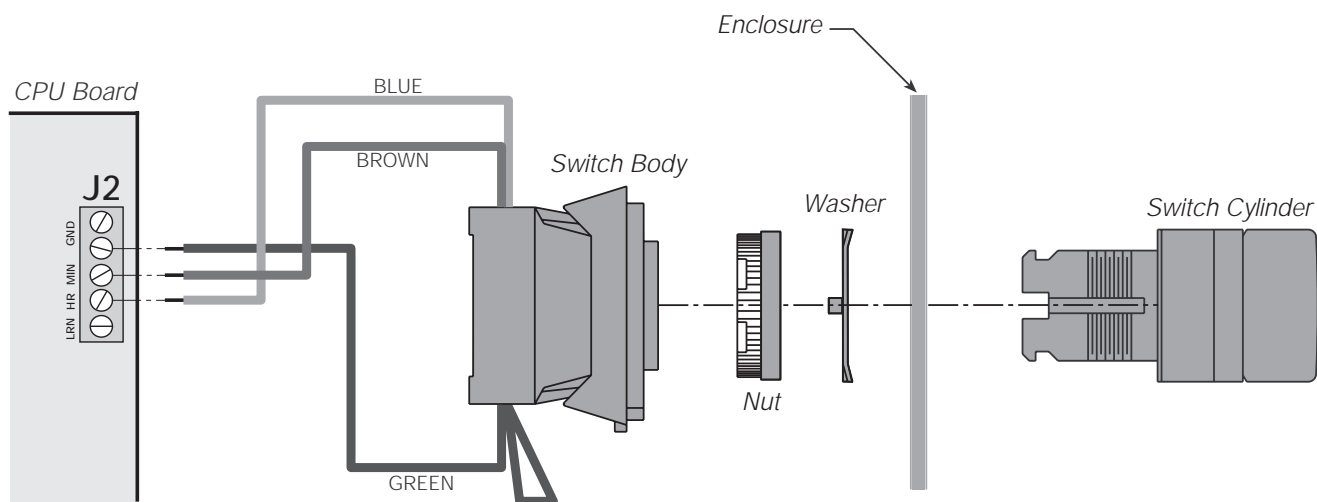

Figure 1. Time Option Switch Assembly
4. Install the clock switch in the hole from the outside of the enclosure (see Figure 1, below). Install the tabbed rectangular metal washer on the inside of the enclosure. Tighten (do not overtighten!) the plastic nut on the switch cylinder.